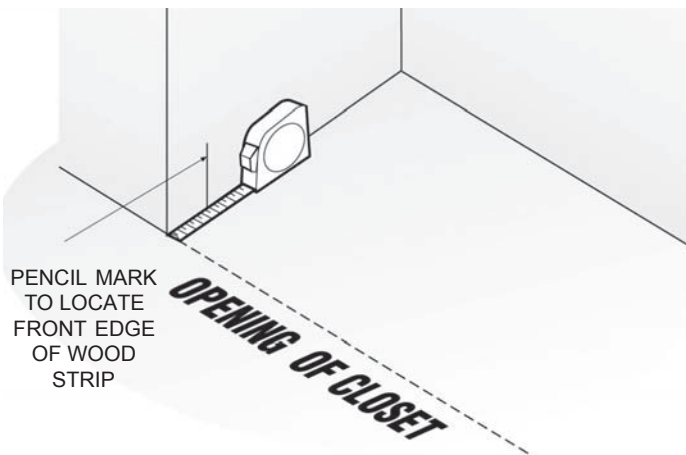

Figure 2
- C. Find the correct offset measurement using the **Offset Measuring Table** on Page 3 (**B** Measurement) for your particular installation. From the front edge of closet opening inward, measure using dimension from table and make a pencil mark on wall. Do this on both walls, i.e., right and left walls (See Figure 2).